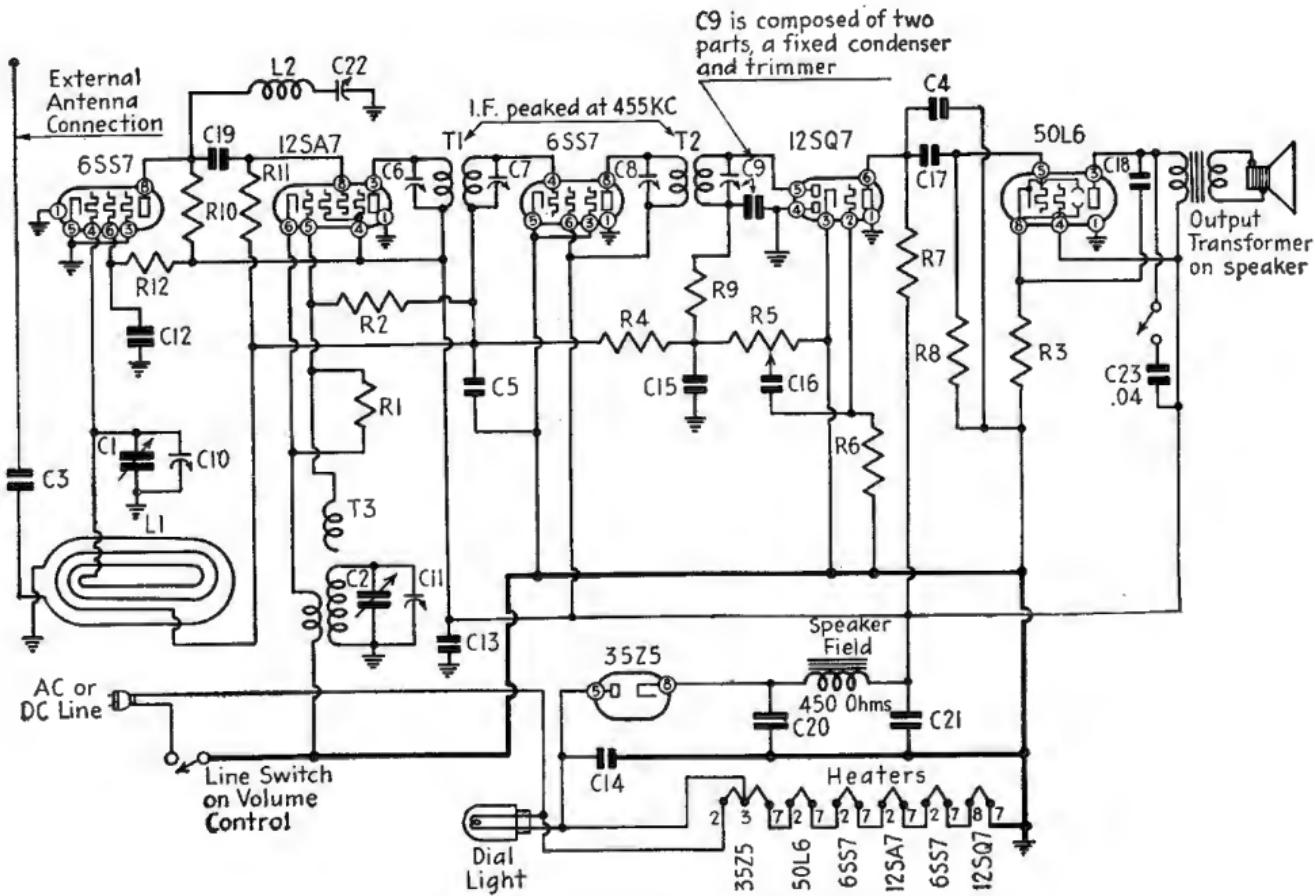
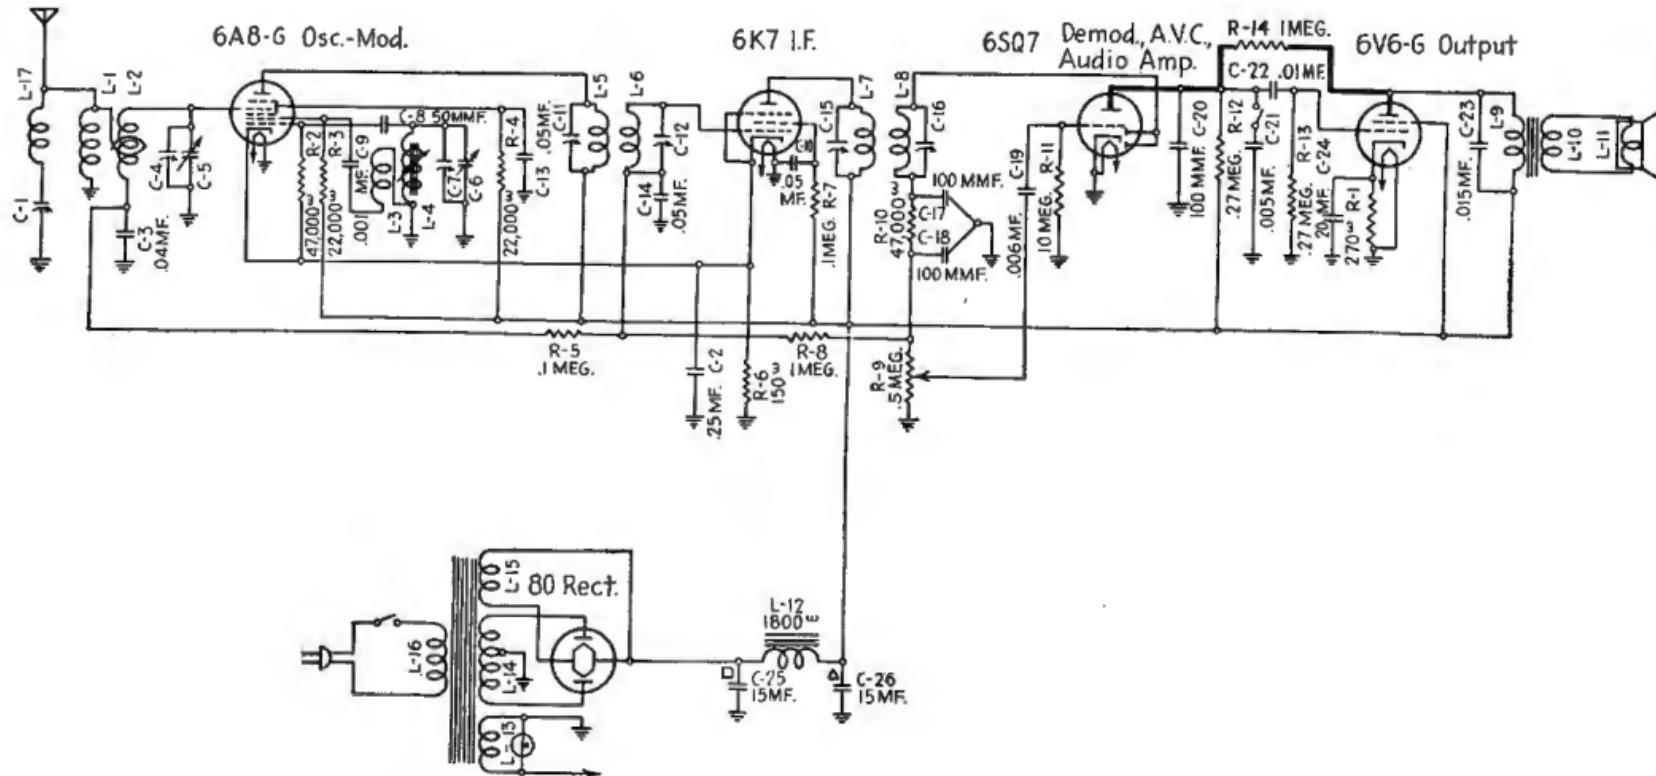

FIG. 10-13.—Schematic diagram for Emerson Model GB receiver.
FIG. 10-14.—Schematic circuit of the Stromberg-Carlson No. 400 receiver.
A modern trend in the use of tone controls is to replace the variable resistor $R-112$ with a switch, thereby making a 2-point tone control. An example of this is shown in Fig. 10-13. Note the tone condenser $C-23$ and its associated switch in the plate circuit of the 50L6 tube. When the switch is open, there is no shunting action, and this is the treble position. In the bass position, where the switch is closed, $C-23$, which is 0.04 mfd, shunts some of the high audio frequencies out of the speaker.
Figure 10-14 shows a similar 2-point tone control. In this case, the shunting action of $C-21$ and its associated switch is in the input circuit of the second AF tube.
In Fig. 10-13, the cathode by-pass condenser has been omitted to provide degeneration through self-bias resistor $R-3$, which is common to both the input and output circuits of the 50L6 tube. Since the input and output circuits of a tube are 180 deg out of phase, degeneration is automatic. Condenser $C-18$, the high-frequency by-pass condenser, is returned directly to cathode rather than to ground, so that the degenerative effect is greater at the higher frequencies (especially the high harmonic frequencies), thereby making for more uniform response for the stage. In Fig. 10-14 the inverse feedback
As a general rule, inverse feedback circuits do not cause many complications to the serviceman. All tests and service notes pertaining to the standard amplifier circuit may be applied. Resistor $R-14$ in the feedback circuit, represented in Fig. 10-14, will rarely cause any service difficulty.
5. The receiver of Fig. 10-14 has low volume and sounds tinny. A voltage check shows normal voltage readings. Substitution of the bench test speaker causes no improvement. What should the next check be?
6. The receiver of Fig. 10-14 motorboats. Bridging the output filter condenser C-26 with a 20-mfd/450-volt condenser causes no improvement. What should the next check be?
7. The receiver of Fig. 10-13 begins to distort after it has been playing for 15 min. What would you suspect is wrong? How would you confirm your suspicion?
9. The receiver of Fig. 10-13 is brought in as dead and gives the following voltage readings for the second AF stage: